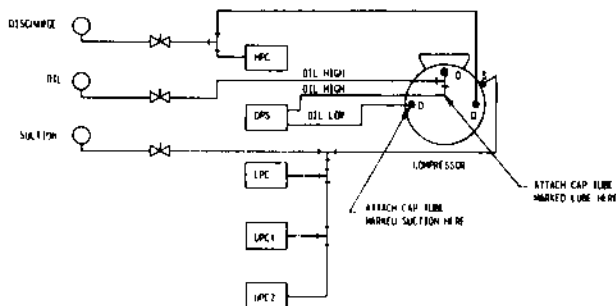

FIGURE 6A — Pressure Control Lines Compressor Unit
2. Remove the oil pressure control tubing from the oil pump pressure discharge tap. See Figure 6A, Page 15).
4. Connect the control tubing to the fittings (Refer to Figure 6A).
When removing the control tubing from the fitting on the compressor or control, cap the fitting quickly or plug the tubing to prevent the loss of pressure within the compressor. Figures 6A, 6B and 6C illustrate the control connections.